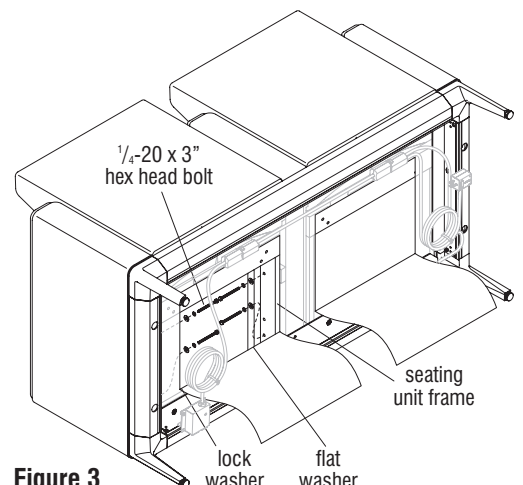

Figure 3
4. Remove two $\frac{1}{4}$ -20 x 3" hex head bolts, lock washers, and flat washers securing the arm to the seating unit frame. If the middle arm is to be removed, remove the $\frac{1}{4}$ -20 x 3" hex head bolts and washers on both sides of the arm. Set bolts and washers aside to be reinstalled in a later step (Figure 3 & Detail A).
2. With the assistance of a second person, carefully lay the lounge assembly onto its front, on a clean, protective surface (page 8, Figure 3).